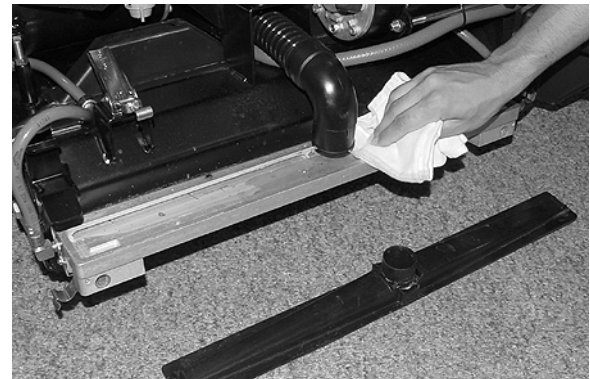

FIG. 32
- Remove the front and rear roller vacuum shoe covers and remove any debris (Figure 32).